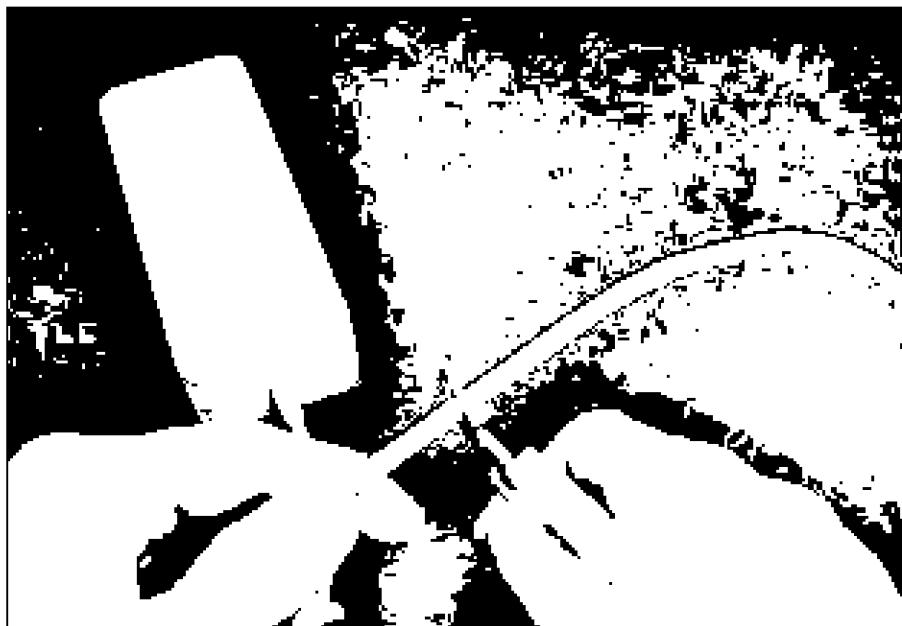

Figure 13-5:
Place your mini's power brick on a work surface. There are two cables coming out of the brick. One is the AC input cord, which has a connector that plugs into the wall outlet and another that plugs into the brick. Unplug this cable from the power brick and put it far away from where you are working. (If you can't see it, you can't cut it.) The second cable (shown in Figure 13-5) is attached to the brick and has a plug that goes into the mini itself. This is the one that you are about to cut.
- 1. Cut this wire about 1 foot (30 cm) from the mini brick, as shown in Figure 13-5.**